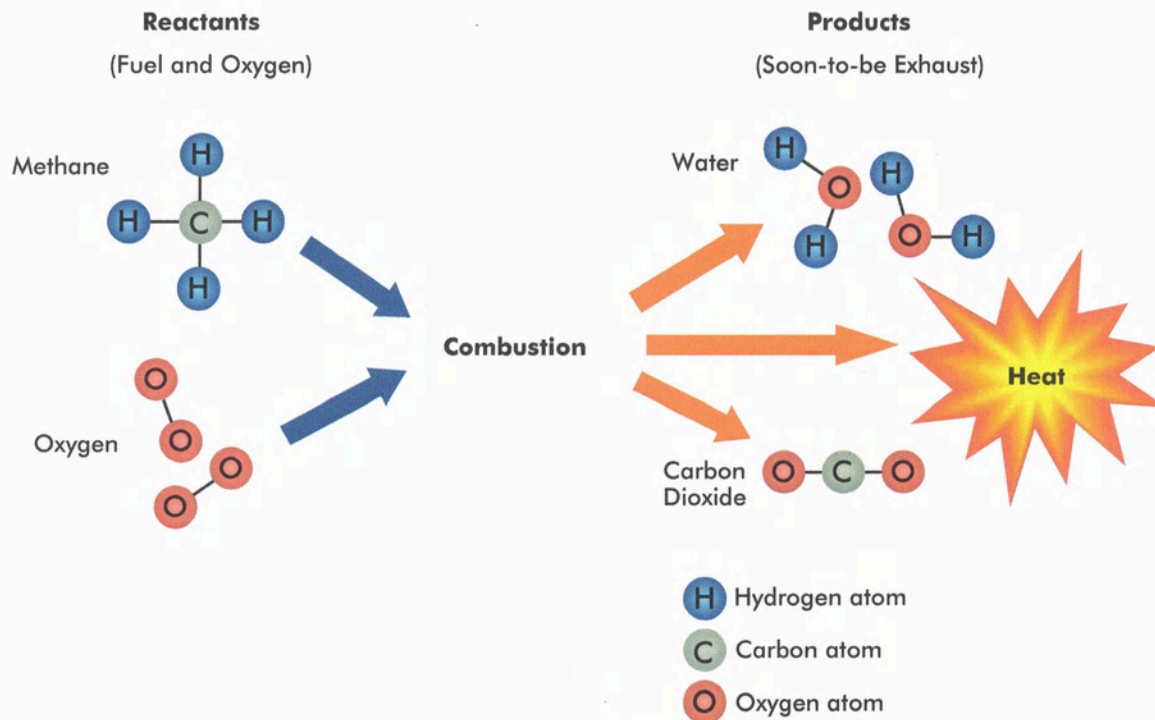

FIGURE 16 Combustion of methane with pure oxygen. When methane is burned, it produces water, carbon dioxide, and a lot of heat.
Let's look at the relatively simple example of burning methane, the main component of natural gas.¹⁵ On the left side of **FIGURE 16** is one molecule of methane, called CH₄ because it's made of one carbon atom (C) and four hydrogen atoms (H). To burn completely, one methane molecule needs to combine with four oxygen atoms, contained in the two oxygen molecules shown. The methane and oxygen are called the **REACTANTS** because once a spark is supplied, they will react (burn, in this case) and rearrange the atoms into the combustion **PRODUCTS** (**FIGURE 16**, right). The total numbers of hydrogen, carbon, and oxygen atoms are the same before and after the reaction: